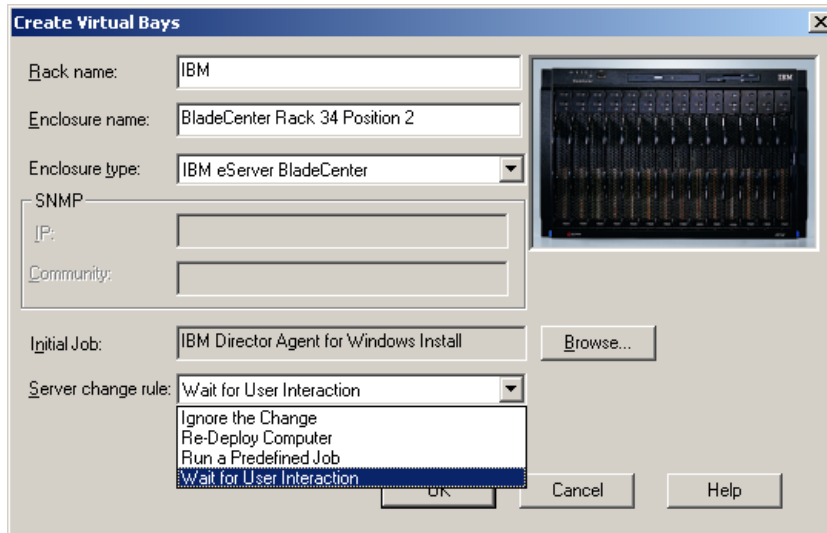

Figure 9-5 Server Change rules
6. In the pull-down list for **Server change rule**, you can select what you want to do when a new Blade computer is installed. The options are listed in Table 9-1 on page 305 and shown in Figure 9-5 on page 305.